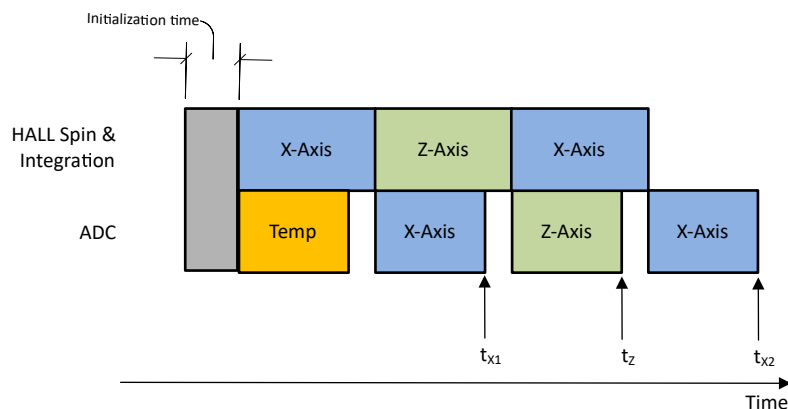

Figure 7-3. XZX Magnetic Field Conversion
In absolute angle measurement, application sensor data from multiple axes are required to calculate an accurate angle. The magnetic field data collected at different times through the same signal chain introduces error in angle calculation. The TMAG5170D-Q1 offers pseudo-simultaneous sampling data collection modes to eliminate this error. Figure 7-3 shows an example where MAG_CH_EN is set at 1101b to collect XZX data. Equation 7 shows that the time stamps for the X and Z sensor data are the same.
- t_{x1} , t_z , t_{x2} are time stamps for X, Z, X sensor data completion as defined in Figure 7-3.